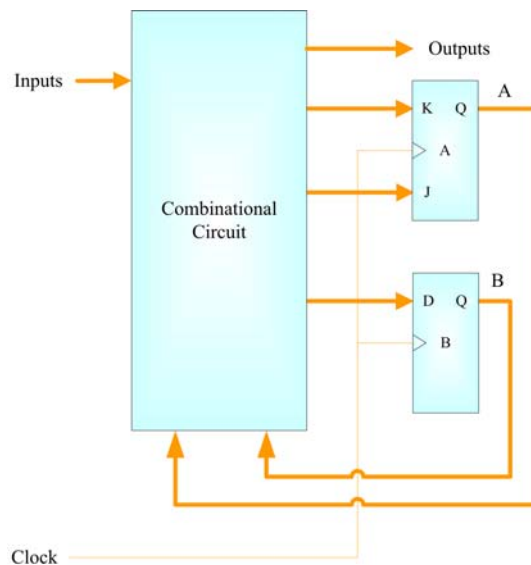

Figure 3: General Structure of the Sequenc Recognizer
- Referring to the general structure of sequential circuit shown in Figure 3, our synthesized circuit will look like that as shown in the figure. Observe the feedback paths.